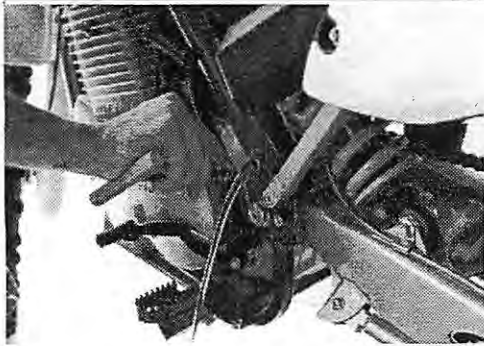

Figure 4.1
2. Remove the frame reservoir drain plug from the lower left side of the frame backbone tube (located behind the kickstarter), using a 6 mm Allen wrench. (Figure 4.1)